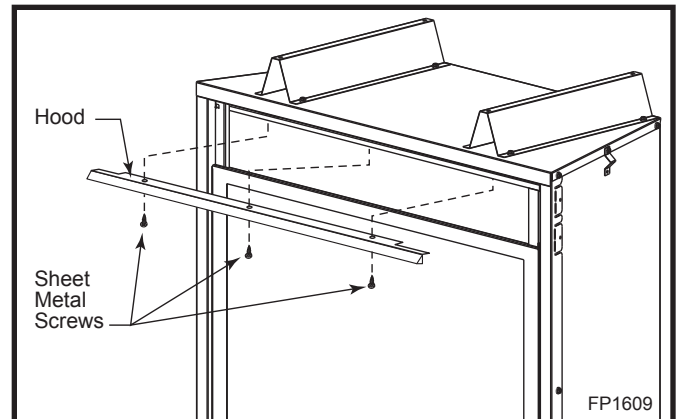

Fig. 4a Secure hood to fireplace with sheet metal screws.
2. Remove three (3) sheet metal screws in bottom flange of fireplace surround top.
3. Install the hood by aligning the three holes in bottom flange of fireplace surround top. (Fig. 4a)
4. Secure hood to bottom flange of fireplace surround top using three screws removed in Step 2. (Fig. 4a)